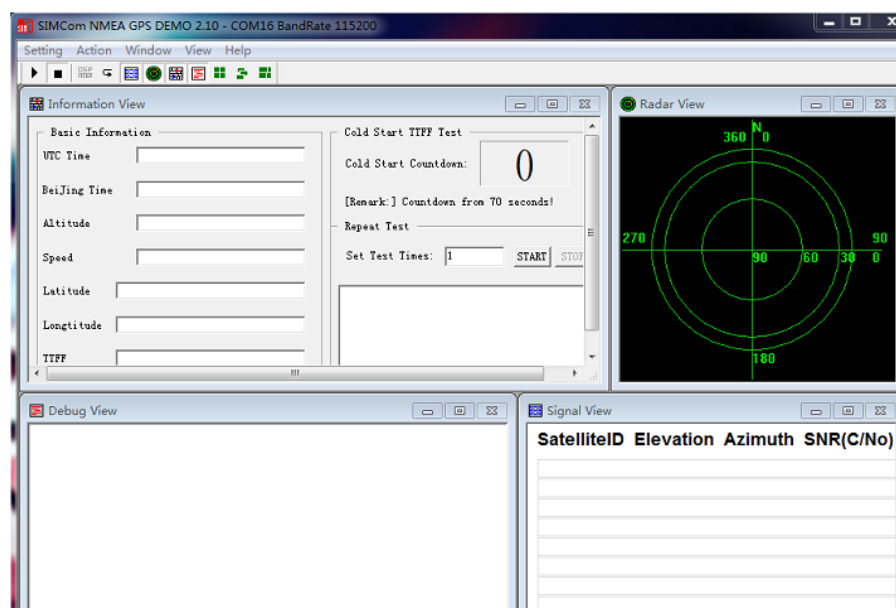

Figure 7: NEMA GPS Demo
- 1) Start the software NEMA GPS DEMO V2.2, as Figure 7 shows.